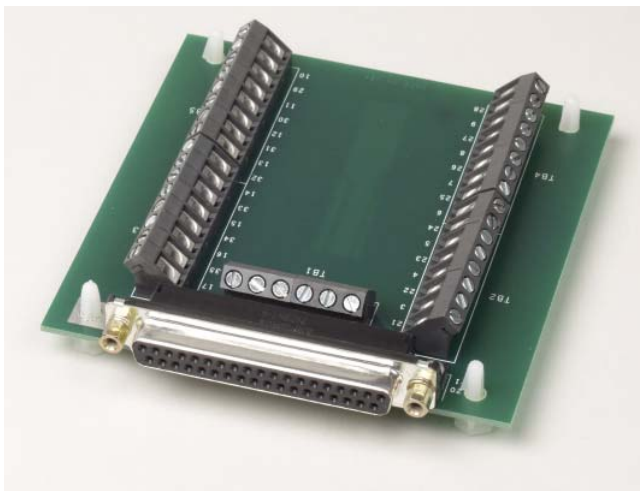

Figure 4: STP37 Screw Terminal Panel
- **STP37 screw terminal panel** – The STP37, shown in Figure 4, permits easy screw terminal connections for accessing the digital I/O signals of a TEMPpoint, VOLTpoint, or MEASURpoint instrument.